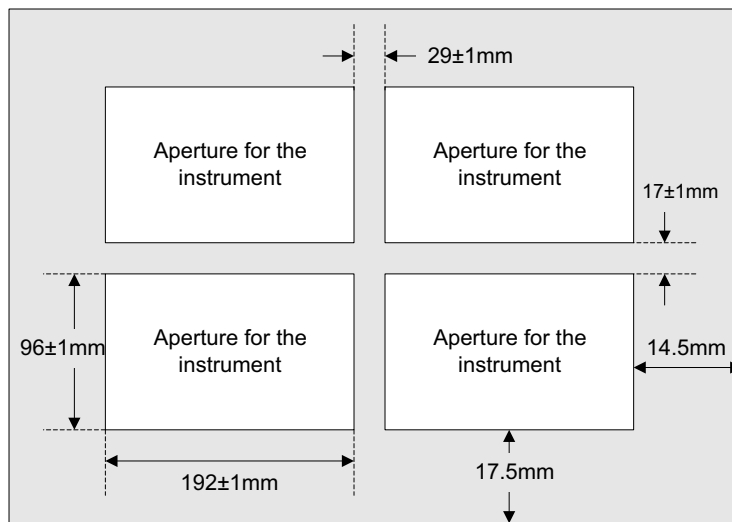

Figure 5.2: Minimum dimensions for a panel with apertures to fit four 7951's
1. Firstly, referring to Figure 5.2, cut out an aperture in the front panel for each instrument which is to be mounted on it.